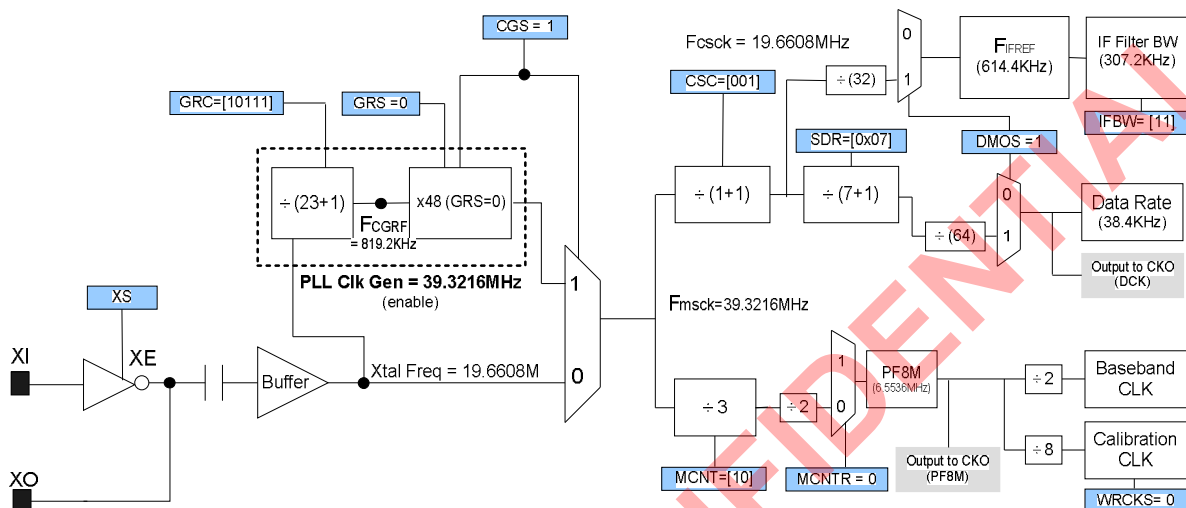

Figure 12.5 Configurations of 38.4Kbps when IFBW = 307.2KHz
5. If choosing IFBW = [11]. IFBW will become 307.2KHz instead of the expected 250KHz because of F_{IFREF} (higher F_{IFREF} results larger IF bandwidth if IF Filter Calibration is successful.). Figure 12.5 illustrates the different results of CSC and FCSC.